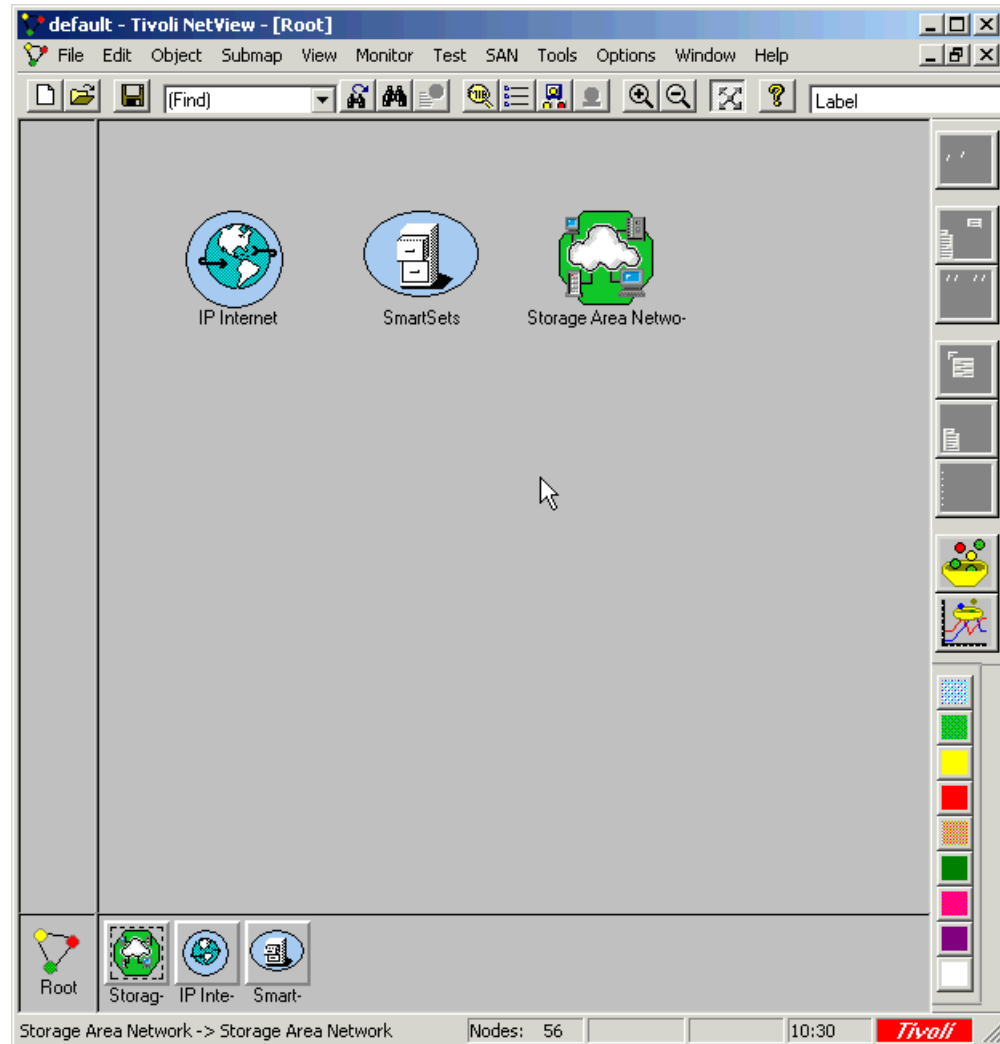

Figure 14-5 Tivoli SAN Manager start panel
1. To start Tivoli SAN Manager, click the **Tivoli NetView** icon on the master console desktop area. This opens the default (Root) panel, as shown in Figure 14-5. Now we configure the agents.